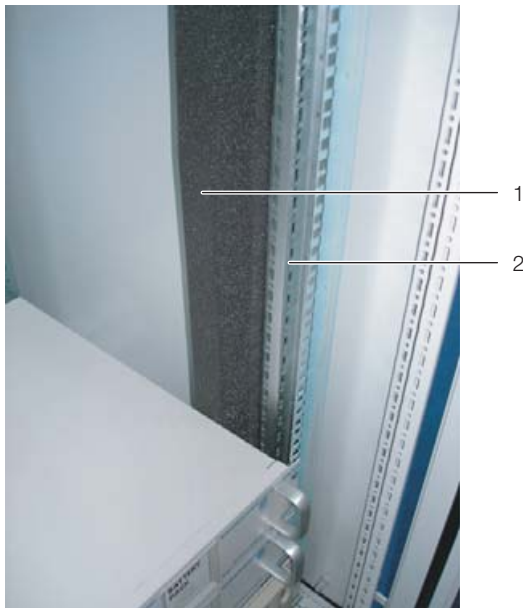

Fig. 19: Foam strip on a server rack support
- Fasten the broader (Model No. SK 3301.370/3301.320) of the two foam strips from the LCP Inline accessories from outside onto one of the front supports of the server rack (Fig. 19). Make sure to
- **If you are only buying the Liquid Cooling Package on one side:** Fasten the narrower (Model No. SK 3301.380 / 3301.390) of the two foam strips from the Liquid Cooling Package accessories from outside onto one of the front supports of the server rack (Fig. 19). Make sure to install this strip on the side of the server enclosure which will again be sealed by a side panel.